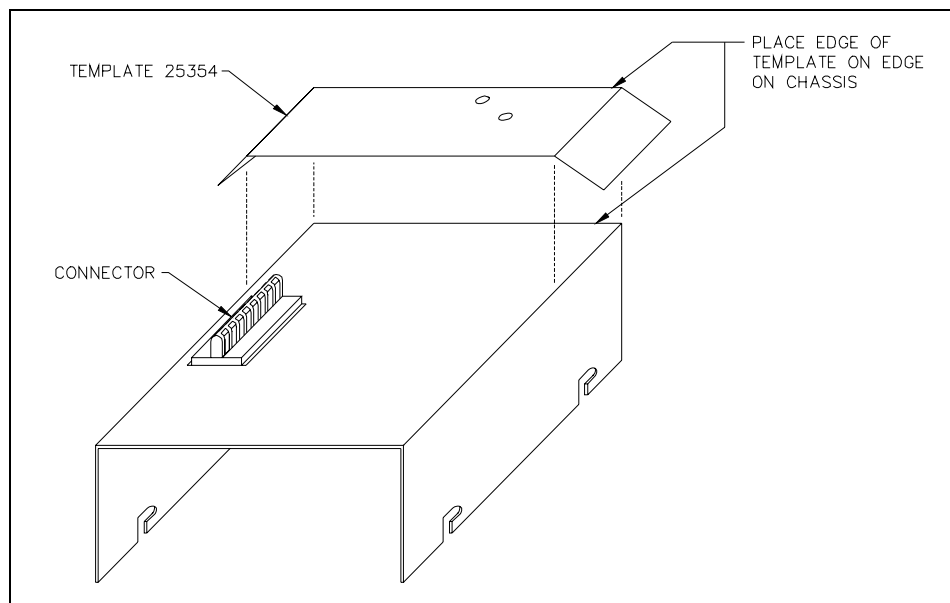

Figure 3. Template 25354
7. Turn the chassis over. With the connector opening at the top of the chassis, place the template along the right edge of the chassis as shown on the diagram. Refer to Figure 3 below.